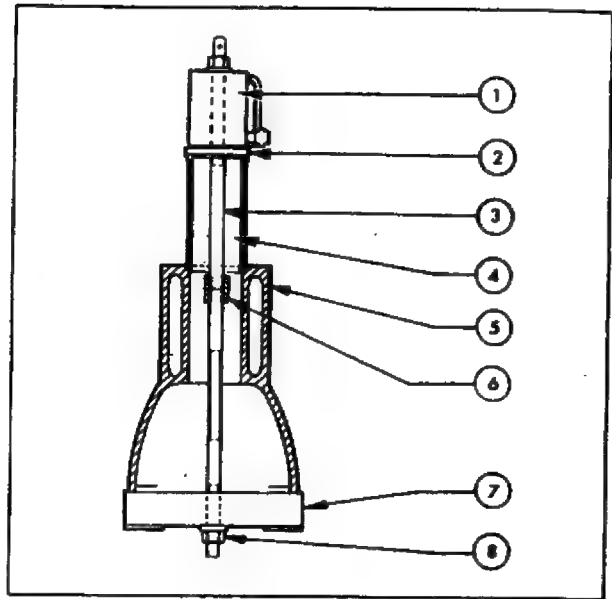

Fig. 10
2. Using the pull-rod coupler, join the two pull-rods together, assemble the cross-beam, flat washer and nut to the lower end of the pull-rod. Insert the pull-rod into the liner so that the cross beam locates on the sump face of the cylinder block (Figs. 10 and 11).